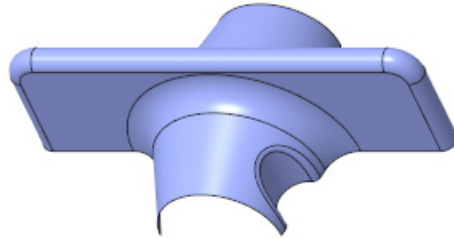

Figure 15-132 Completed surface model
4. Select the top face of a base surface; the preview of the round is highlighted on the selected surfaces. Exit the **Round** dashboard by choosing the **OK** button. The round is created, as shown in Figure 15-132.